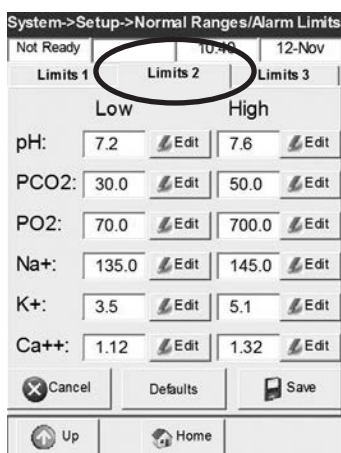

Fig. 3-16 Enter Limits 2
4. Press **<Limits 2>** to advance to the next screen (Fig. 3-16).